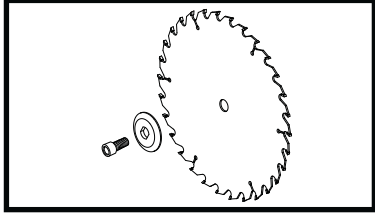

Fig 15
- 3) Place the outer blade collar against the blade and on the arbor. Thread the arbor bolt onto the arbor in a counterclockwise direction. (See fig. 15)